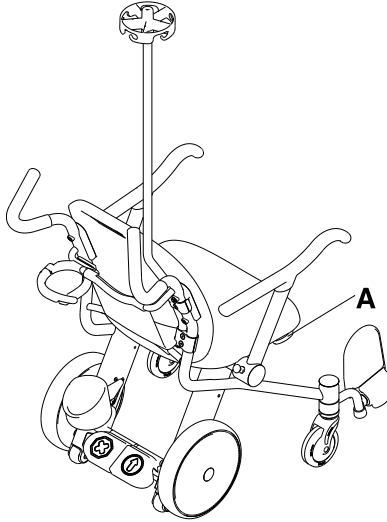

Figure 13: Foley bag hook location
To secure a foley bag to the optional foley bag hook, place the hook of the foley bag on the optional foley bag hook (A) (Figure 13 on page 23). Make sure that you have securely attached the foley bag.